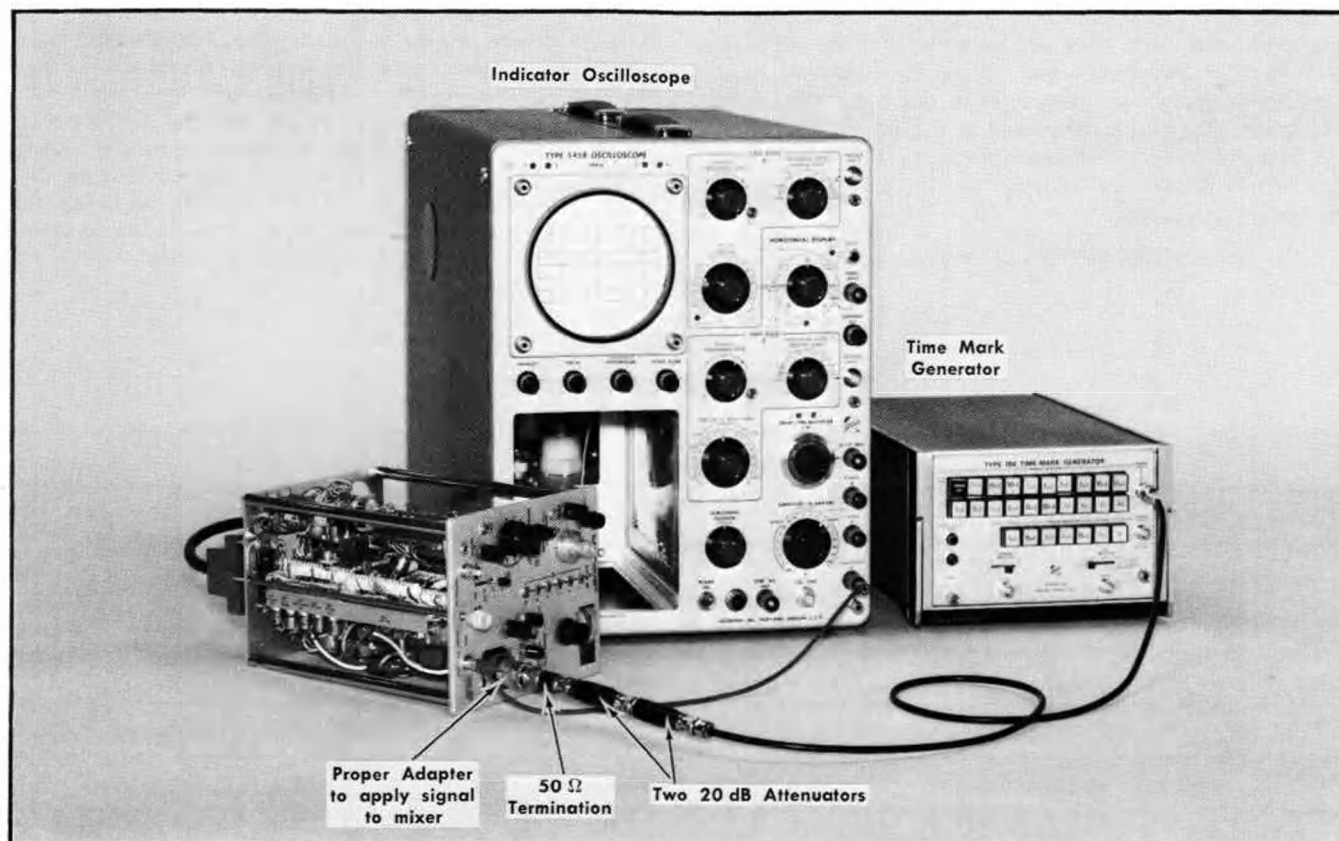

Fig. 5-11. Equipment setup to adjust and check kHz/CM dispersion accuracy (step 4).
a. The equipment setup for this step is shown in Fig. 5-11.
c. **CHECK**—the range of the IF CENTER FREQ control. Frequency range must equal or exceed + and — 2.5 MHz from its centered (000) position.